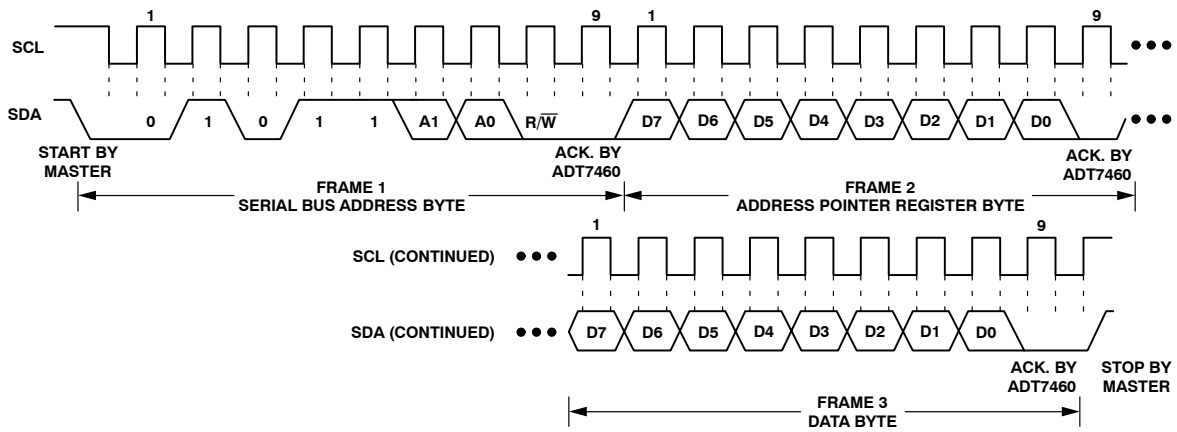
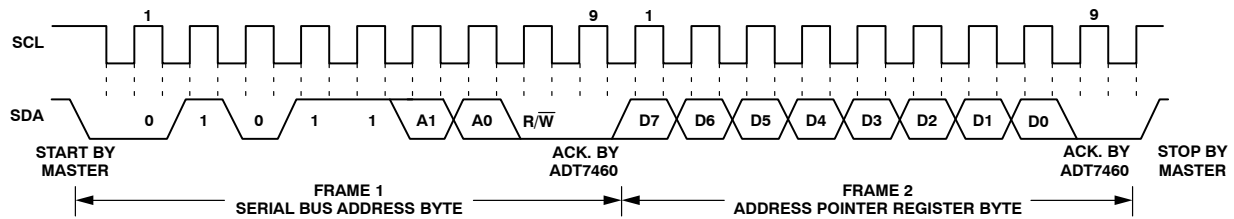
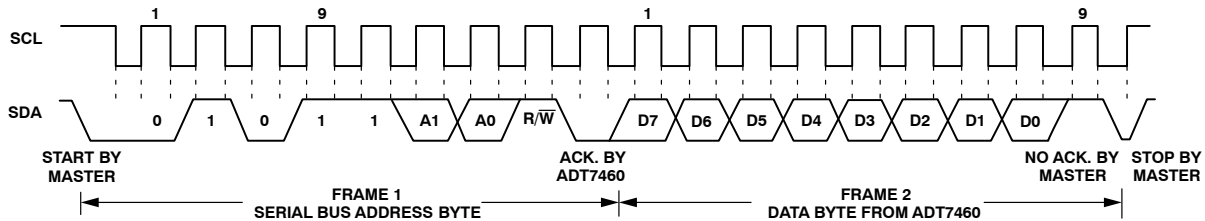

Figure 17. Writing a Register Address to the Address Pointer Register, then Writing Data to the Selected Register
Figure 18. Writing to the Address Pointer Register Only
Figure 19. Reading Data from a Previously Selected Register
This is illustrated in Figure 17. The device address is sent over the bus followed by R/W being set to 0. This is followed by two data bytes. The first data byte is the address of the internal data register to be written to, which is stored in the address pointer register. The second data byte is the data to be written to the internal data register.
1. If the ADT7460's address pointer register value is unknown or not the desired value, it is first necessary to set it to the correct value before data can be read from the desired data register. This is done by performing a write to the ADT7460 as before, but only the data byte containing the register address is sent because data is not to be written to the register. This is shown in Figure 18. A read operation is then performed, consisting of the serial bus address, R/W bit set to 1, followed by the data byte read from the data register. This is shown in Figure 19.
2. If the address pointer register is known to be already at the desired address, data can be read from the corresponding data register without first writing to the address pointer register, so Figure 18 can be omitted.
In Figure 17 and Figure 19, the serial bus address is shown as the default value 01011(A1)(A0), where A1 and A0 are set by the address select mode function previously defined.